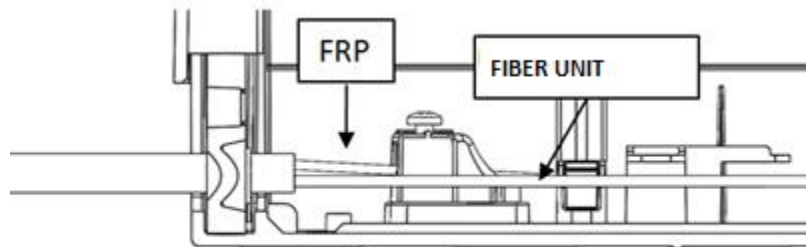

Fig. 14 Support for anchoring FRP (strength member)
- 3.5.4. Insert the strength member in the position and tighten the bracket screw to secure the cable (Fig. 14);